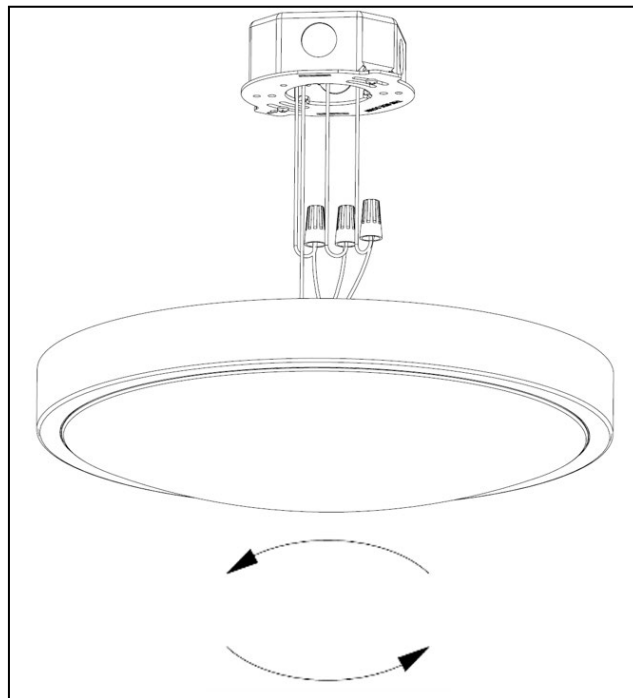

Figure 6
6. **Use Wire nuts** to connect: Black fixture wire to the Black power supply wire (Line); White fixture wire to the White power supply wire (Neutral), and the bare Copper ground wire from the fixture to the bare Copper ground wire from the Junction box. (If house wiring does not include a Ground wire, consult your local electrical code for approved grounding methods.) **FOR PROPER CONNECTION, PLACE WIRENUT OVER WIRES, TWIST CLOCKWISE UNTIL TIGHT**, as shown in *Figure 6*.